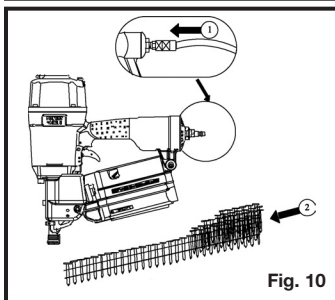

Fig. 10
17. **Connect tool to air supply before** loading fasteners, to prevent a fastener from being fired during connection. The tool driving mechanism may cycle when tool is connected to the air supply. Fig. 10.